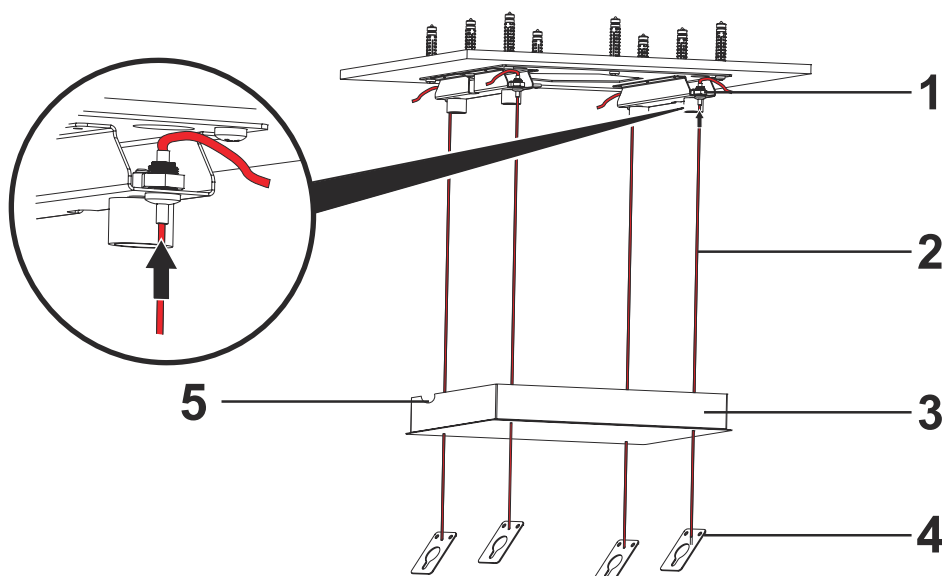

Fig. 12
1. ➔ Let the product hanger wires (2) through hanger plate (3). As this is done, the feeder cable passage area (5) should be on the right side when the appliance is viewed from the front (Fig. 12).
2. ➔ Let the product hanger wires (2) through hanger lock mechanism (1) lock mechanism. Ensure all hanger wires are required length and equal (Fig. 12).